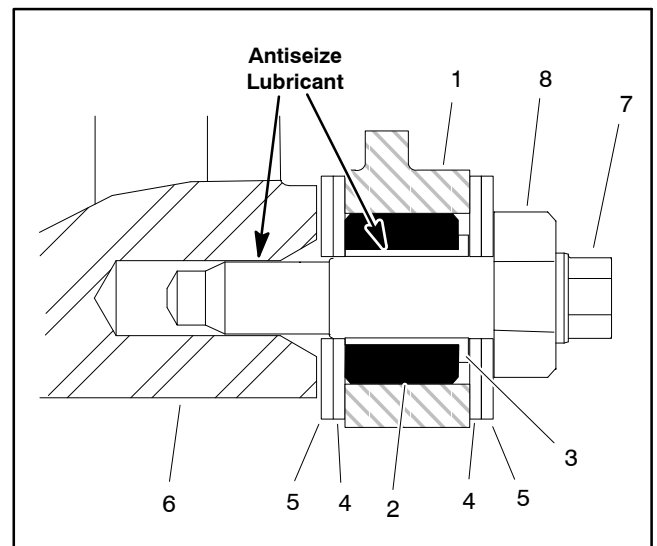

Figure 19
1. If rubber bushing was removed from either cutting unit side plate, apply grease to outside surface of new bushing and install into side plate. The bushing should be installed flush with the inside of the side plate (Fig. 19).
2. If removed, install the nylon bushings (item 15) with flange facing outward. Apply antiseize lubricant to inside of flange bushing.
3. Apply antiseize lubricant to the bedbar threads and the shoulder area of each bedbar pivot bolt (Fig. 19).
IMPORTANT: When installing washers (items 16 and 17), make sure that plastic washers are positioned on either side of the cutting unit sideplate (Fig. 19).
4. Slide one (1) metal washer (item 17) and then one (1) plastic washer (item 16) onto each bedbar pivot bolt.
5. Position bedbar into cutting unit. Make sure that the top of each bedbar arm is between washer (item 11) and adjuster screw flange (item 4).
6. Position one (1) metal washer (item 17) and one (1) plastic washer (item 16) between bedbar and each cutting unit side plate (Fig. 19).
8. Tighten both lock nuts (item 10) until outside washers do not have any endplay but still can be rotated. Do not over tighten the lock nuts as this can distort the side plates and affect reel bearing adjustment. When the lock nut is correctly tightened, there may be a gap at the inside washers.
9. Tighten the lock nut (item 13) on each bedbar adjuster assembly until the adjuster spring is fully compressed, then loosen lock nut 1/2 turn.